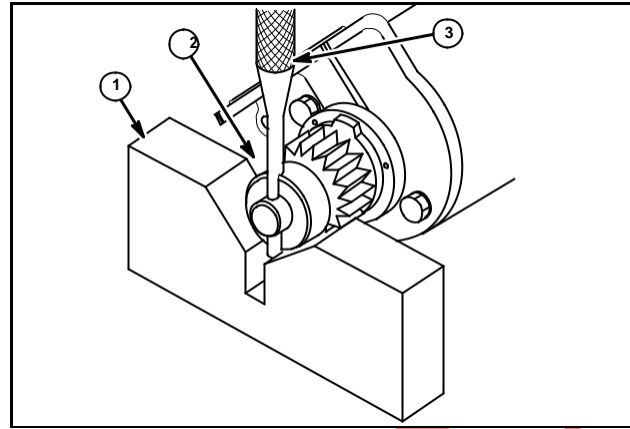

Fig. 63
1. Place retainer (2) in "V" block (1) as shown in Fig. 63.
2. Drive the roll pin out with a hammer and 1/8" (3.0 mm) diameter punch (3) to remove the retainer.